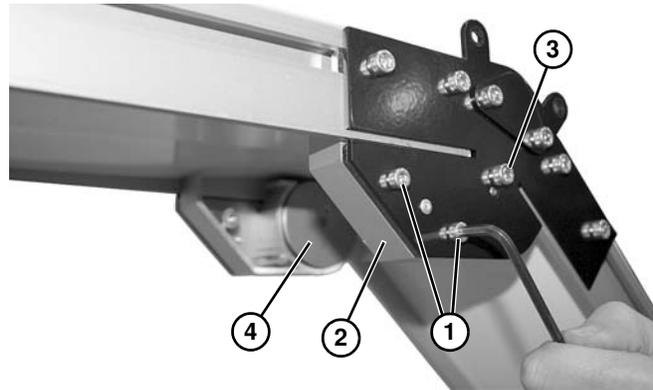

Figure 131
- If equipped with an upper knuckle, remove screws (Figure 131, item 1) and remove guard (Figure 131, item 2) on both sides of knuckle.
- Remove screw (Figure 131, item 3) and remove roller bearing assembly (Figure 131, item 4) on both sides of knuckle.